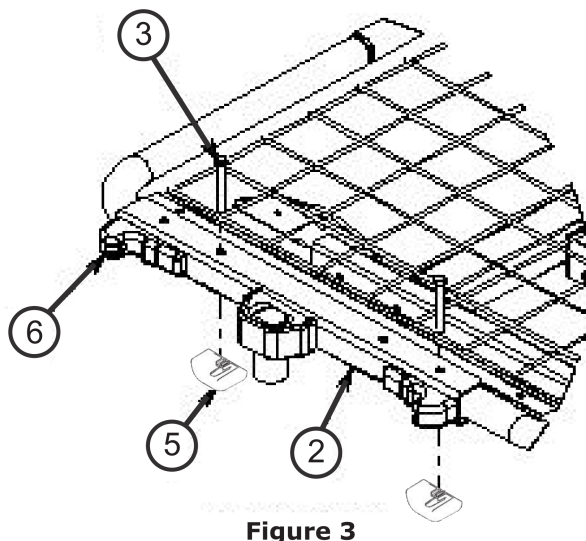

Figure 3
2. Orient the mounting channel (Item 2) with the bed as shown in Figure 3 on page 5.
5. Insert 5/16" bolts (Item 3) through holes of mounting channel and holes on sleep surface (Figure 3 on page 5) and fasten securely with 5/16" nuts in retainers (Item 4).